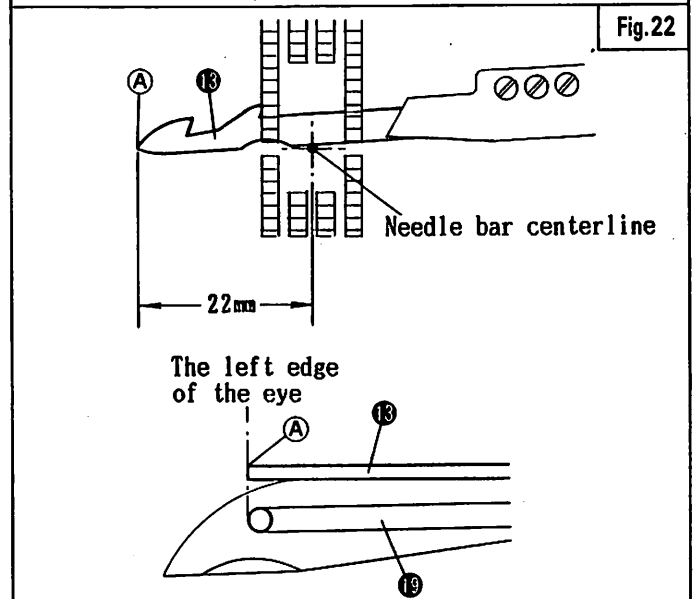

Fig.22
(Fig.22)
* Check at one glance to see that the looper eye left edge is aligned with the lower knife front edge. (Refer to Fig.22.)
(6) After the above adjustments